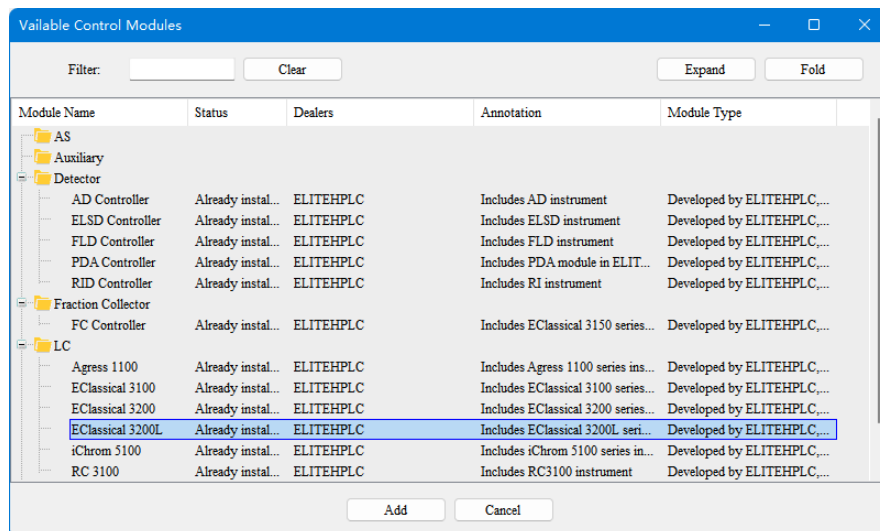

Fig. 3-9 Configuration Screen 03
3) Click the "Add" button at the lower left corner of interface 3-8, and the interface as shown in Fig. 3-9 will pop up: